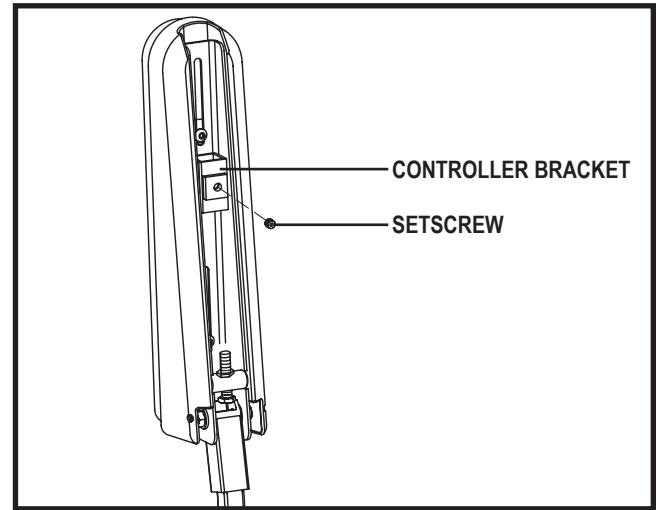

Figure 19. Underside of Armrest
1. Lift the armrest straight up so that it is perpendicular to the floor. **See figure 19.**
2. Loosen the setscrew on the controller bracket. **See figure 19.**